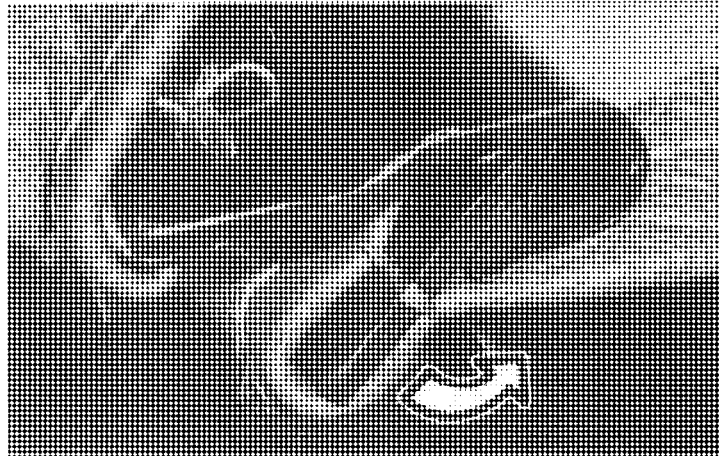

FIGURE 5. Two Piece Clip for Seat Back Cover (Rotates to Disengage)
- a. Front flap of cover is clipped to back flap of cover at bottom of seat back. The clip piece attached to the front flap must be pulled forward (rotated) to disconnect it from the clip piece attached to the back flap. See FIGURE 5.
10. Stretch the cover to reconnect the clips attached to the front and back cover flaps at the bottom of the seat back. Insert the front flap clip into the groove of the back flap clip until the clip barb is engaged. See FIGURE 5.